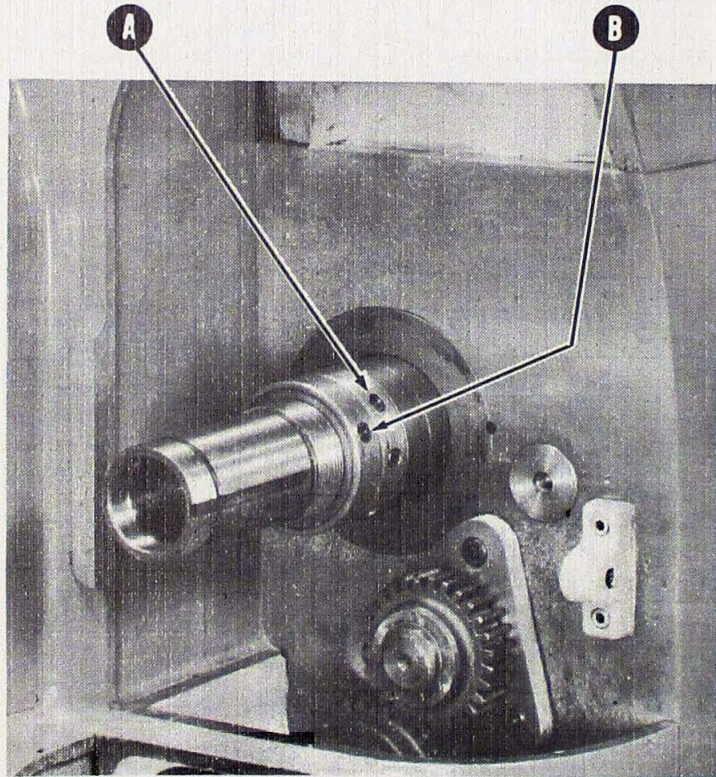

FIGURE 16
This is done by loosening the set screws in nuts (A) and (B), Figure 16; loosening lock nut (B) and tightening adjusting nut (A) until there is a noticeable amount of drag on the spindle. Carefully avoid over-adjustment which will give too much drag. The new adjustment is secured by locking adjusting nut (A) in position with its set